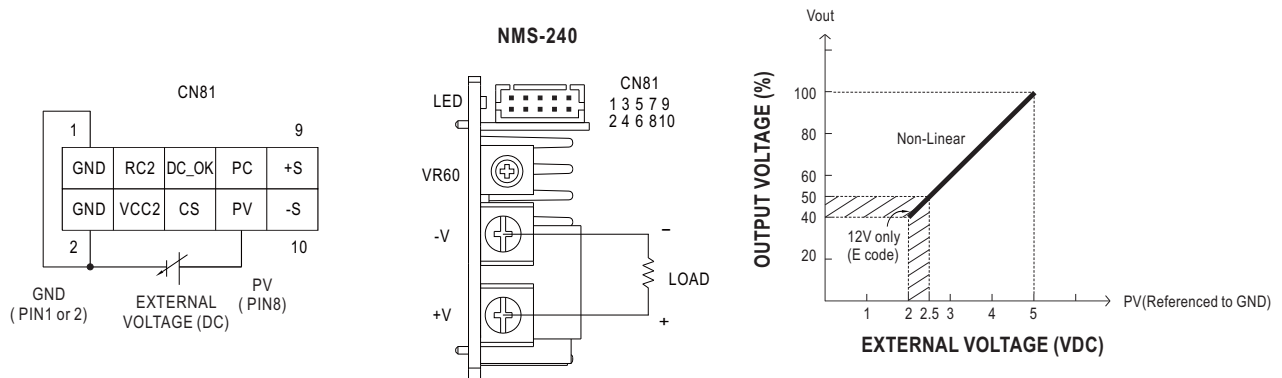

Figure 5-1
- ⊙ Connect the external DC source to PV (PIN8) and GND (PIN 1 or 2) on CN81, as shown in Figure 5-1(left).
- ⊙ Relationship between the output voltage and the external DC voltage is shown in Figure 5-1(right).